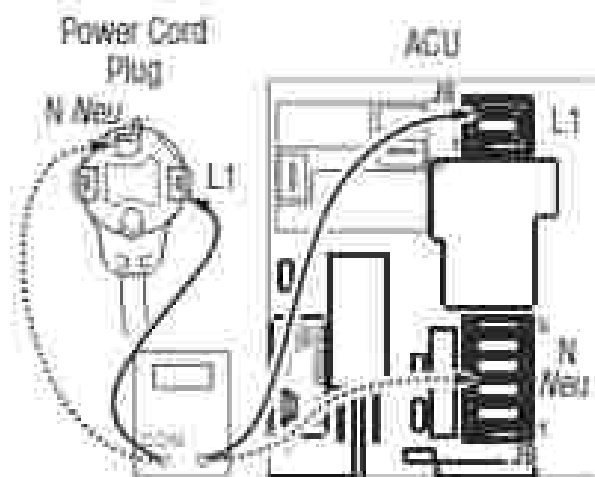

Figure 3 - Plug-terminal connections for electric dryer
4. With an ohmmeter, check the continuity from L1 and N plug terminals of the power cord to the terminals for L1 and N on the ACU. See figure 3, page 3-11.